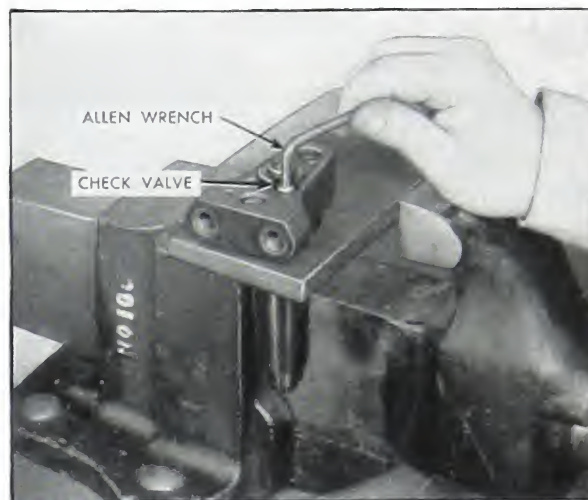

Fig. 6-10. Removing check valve
13. With an Allen wrench, remove the injector check valve and seat. (Fig. 6-10).